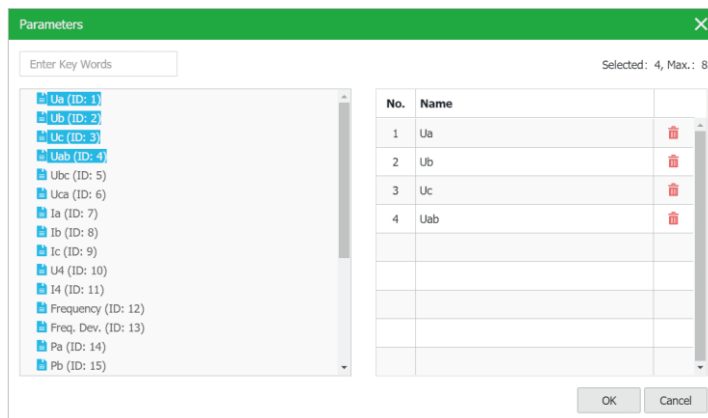

Figure 3-148 RMSR Source Parameters Dialog Box
- RMSR** Click “+ Add” to add a batch of parameters by selecting one or more desired parameters from the **RMSR Source Parameters Dialog Box** (See Figure 3-148) or “De-select All” to remove all existing parameters. Click on the right-hand column to edit an existing parameter or to remove a particular parameter. For more information, please refer to **Section 4.6.4**